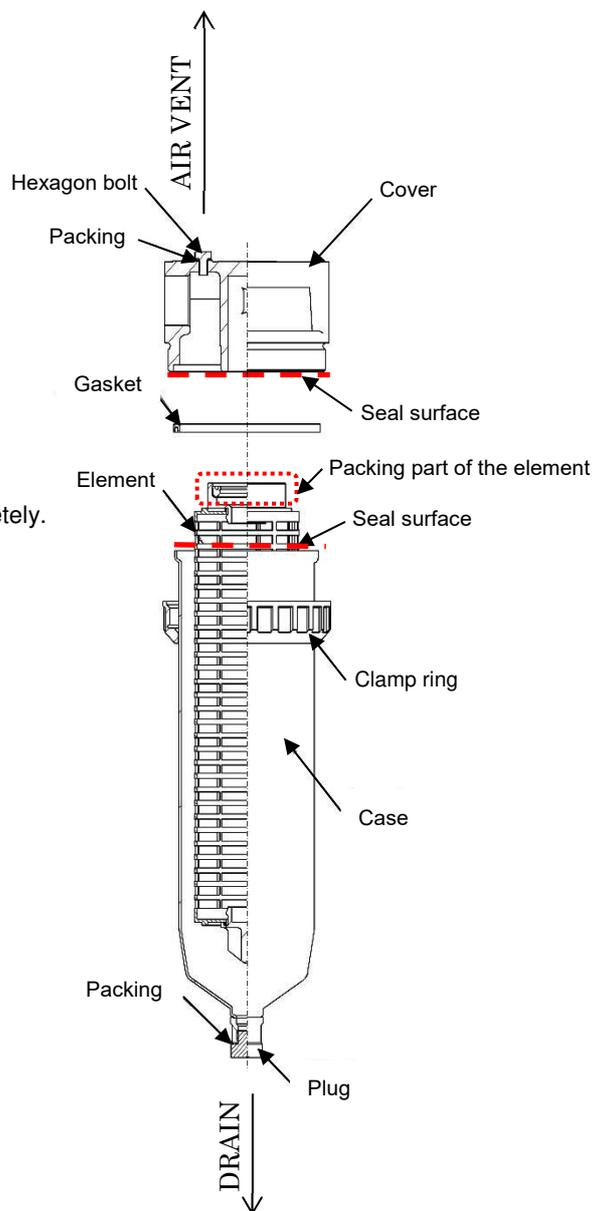

Fig.2 Structural drawing
**[1] Removal of the element.(See Fig.2)**
**[2]Mounting of element. (See Fig.2)**
- (4) Set the clamp ring to the bowl as in Fig. 2.
- (5) Lightly align the seal part of the element with the sheet of the cover.
- (6) After screwing the clamp ring into the cover by hand, tighten it with a belt wrench.
- (7) Set the seals and plug of the drain part, and tighten the hexagon bolt of the air vent.